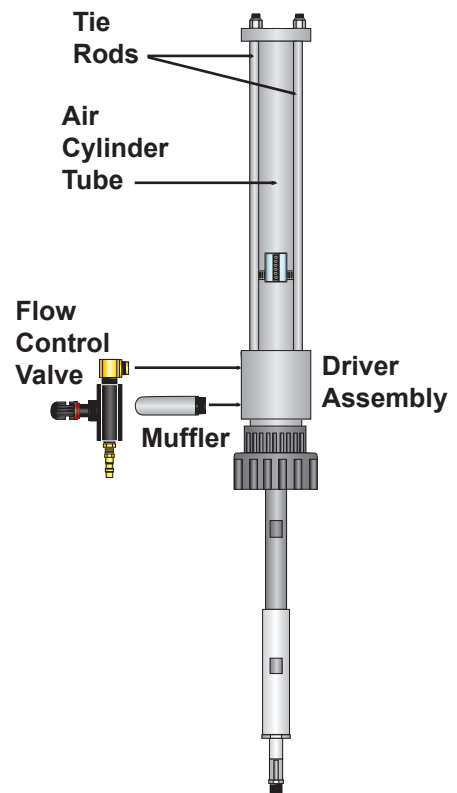

Figure 7
2. Screw pressure gauge into port on top of driver, using Teflon tape (**Figure 7**).
3. Screw flow control valve and muffler into driver side ports (**Figure 7**), using Teflon tape. Set driver aside.